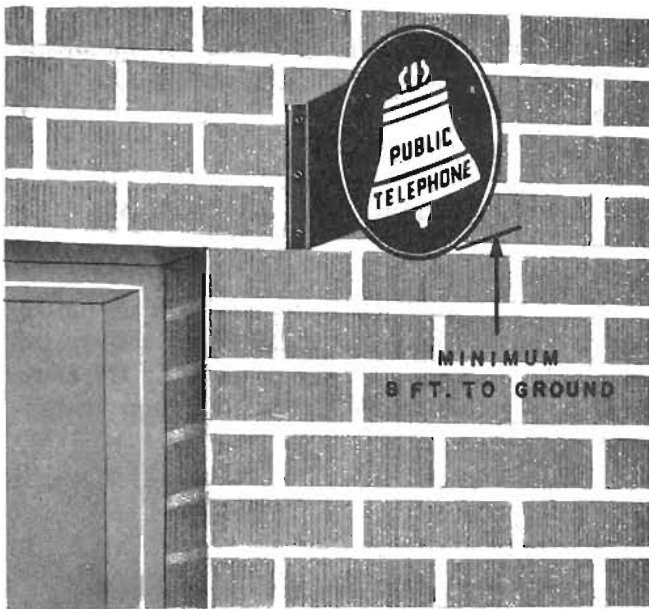
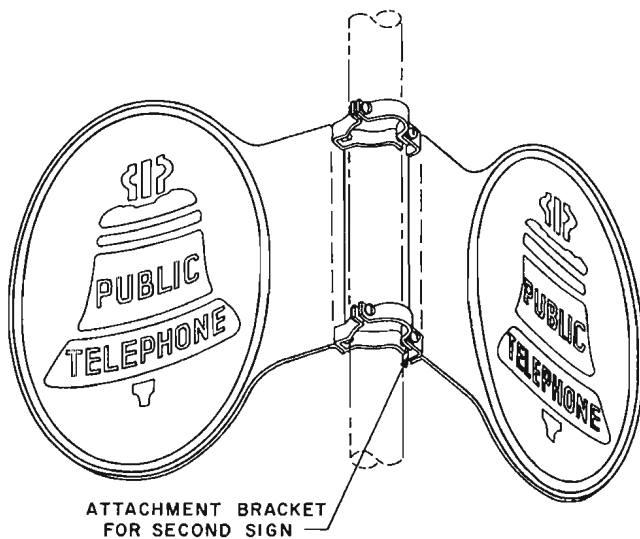

Fig. 5 — KS-16597-Type Sign
Fig. 6 — Double Installation, KS-16597-Type Signs
**3.06** KS-16597-type signs may be mounted at right angles to a flat surface (Fig. 5) or on a post or pole with 170- or 188-type brackets (see Fig. 6).